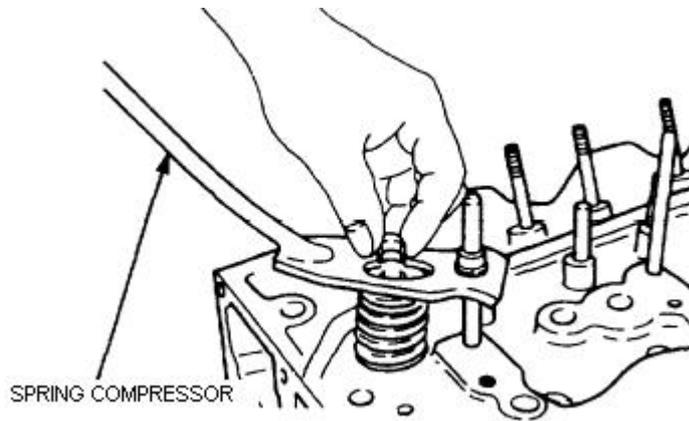

Figure 2 Valve Removal
- Install a spring compressor (Table 3, Serial 65) over a valve (Figure 2).